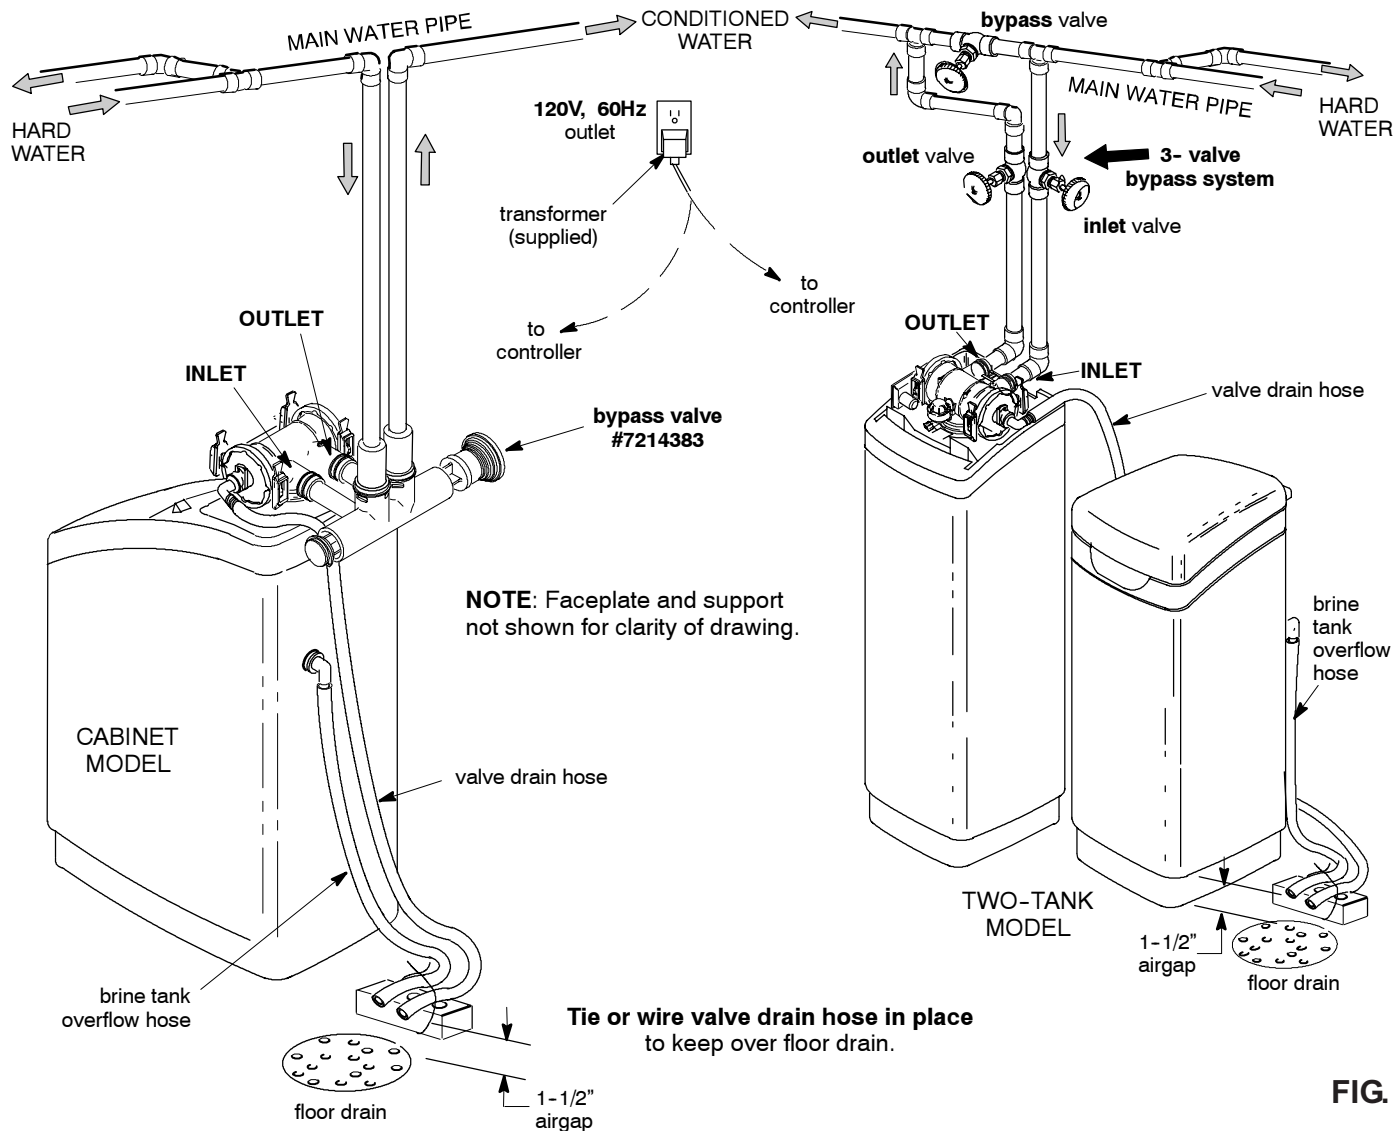

FIG. 1
If installing a 3-valve bypass system, plumb as needed using Figure 1 as a guide. When installing sweat copper, be sure to use lead-free solder and flux, required by federal and state codes. Use pipe joint compound on outside pipe threads.
The house cold water pipe (metal only) is often used as a ground for the house electrical system. The 3-valve bypass type of installation, shown in Figure 1, will maintain ground continuity. If you use the plastic bypass, continuity is broken. To restore the ground, do either step 7a or 7b following.
- c. Run the hose to the floor drain, and as typically shown in Figure 1, tie or wire the end to a brick or other heavy object. This will prevent "whipping" during recharges. Be sure to provide a 1-1/2" minimum air gap, to prevent possible sewer water backup.